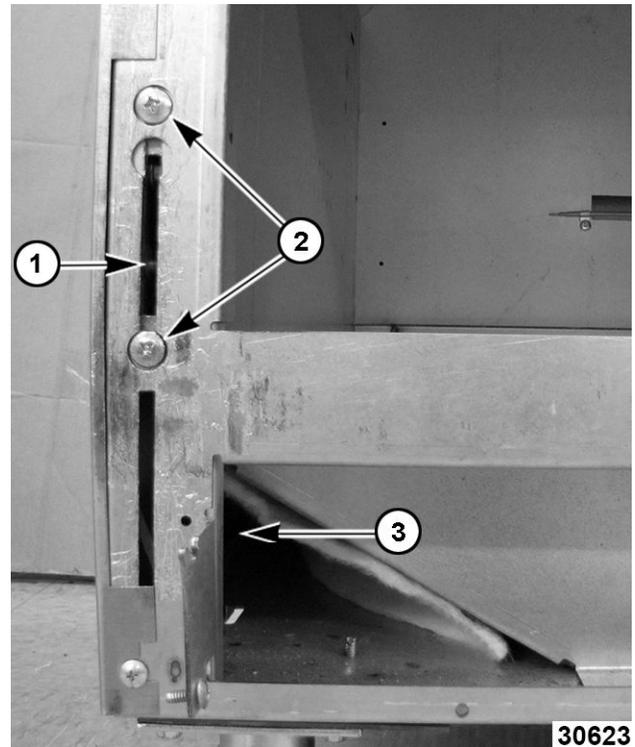

Fig. 73
2. Tie string or flexible wire around pin or roller (1, Fig. 73).
4. Slide stop bracket down cavity channel and out through opening (3, Fig. 73).